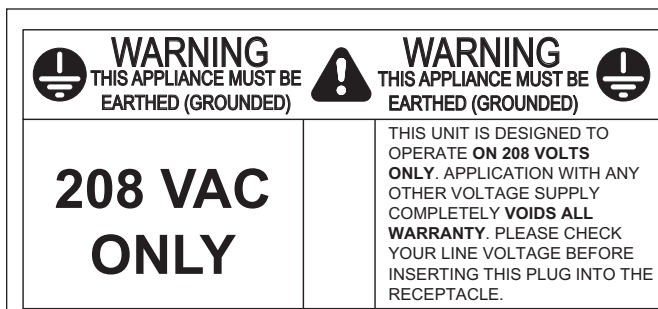

Figure 1. Warning Labels
2. Ensure that the line voltage corresponds to the stated voltage on the unit's specification label and power cord warning tag (Figure 1).